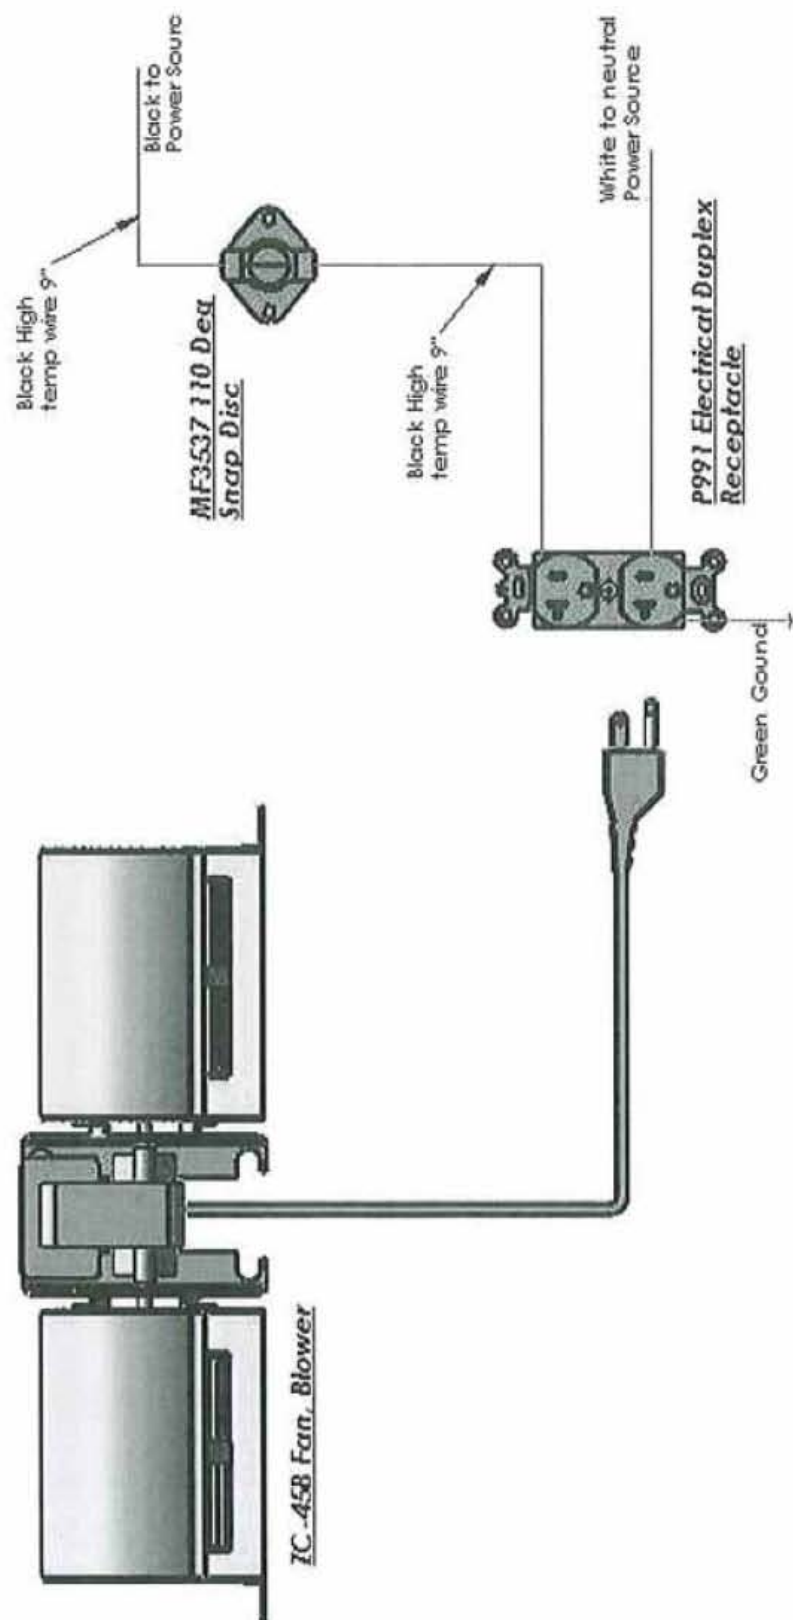

Figure 29
- 7) Attach the Romex connector to the side of the electrical junction box and route the two wires from the Thermo-Censor through the connector. Attach the wires as shown in Figure 29.